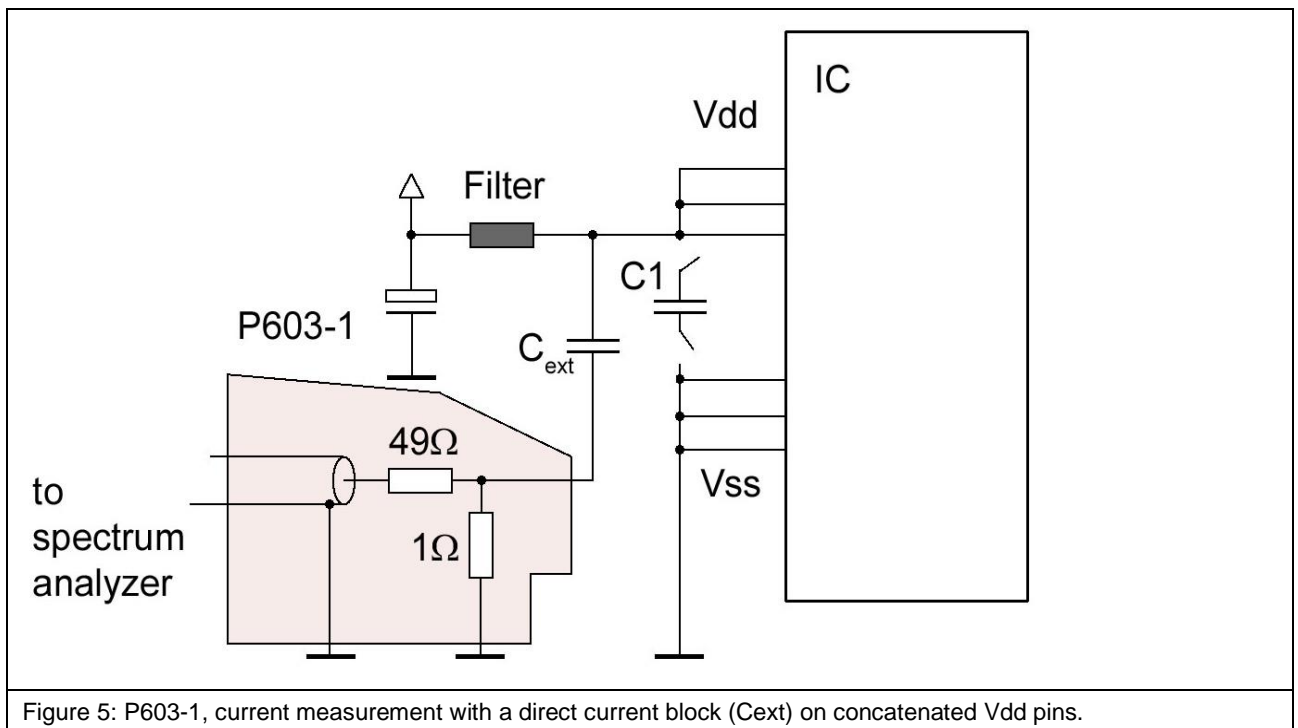

Figure 5: P603-1, current measurement with a direct current block (C_{ext}) on concatenated Vdd pins.
1. Current measurement (P603-1) on concatenated Vdd pins (with external capacity), **Figure 5**